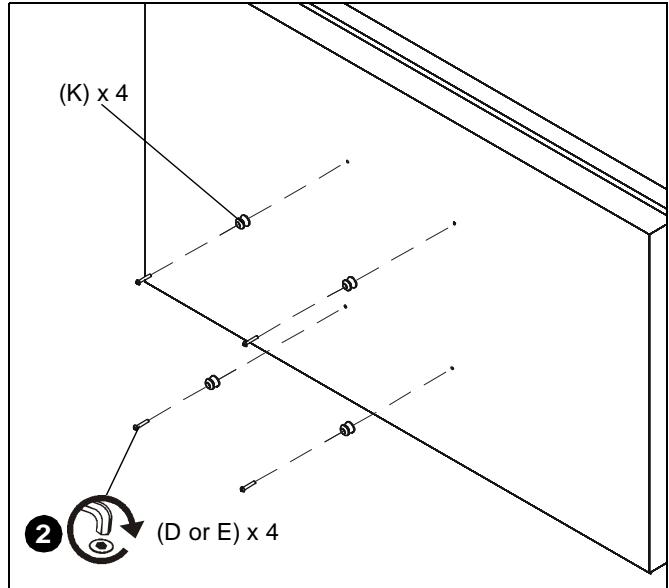

Figure 3
2. Attach mounting buttons (K) to back of display using four M8x25mm or M8x35mm button head cap screws (D or E). (See Figure 3)